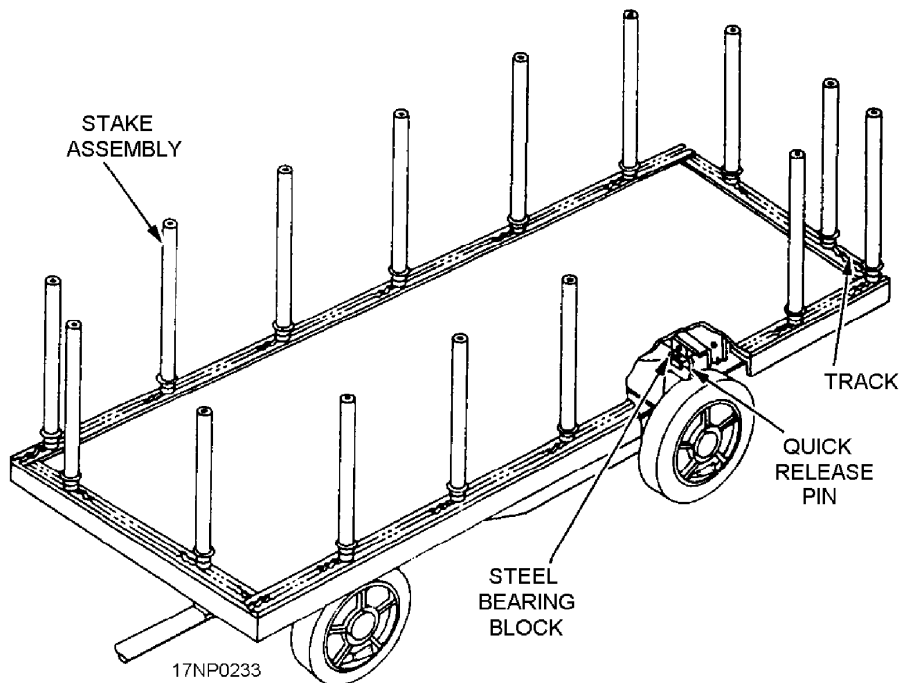

Figure 9-35.—Aero 71A skid adapter mounted to Aero 58A skid MHU-191/M munitions transporter.
**AERO 71A SKID ADAPTER.**—The Aero 71A skid adapter (fig. 9-35) consists of a welded aluminum angle frame, sheet aluminum deck, and steel tube